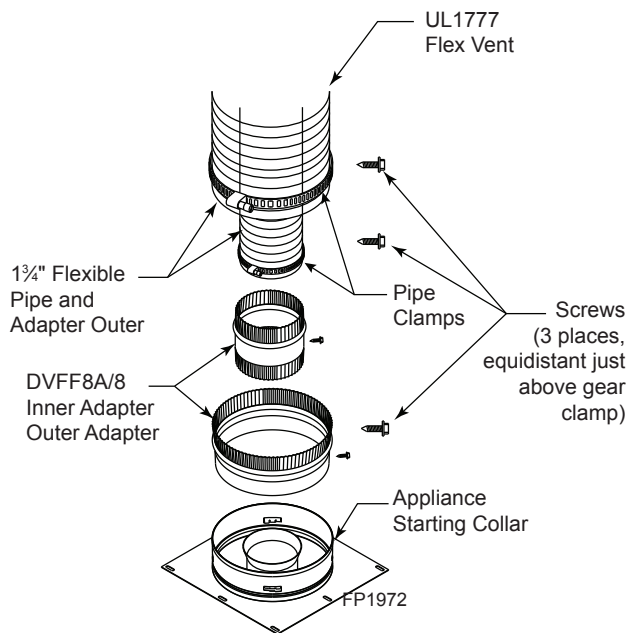

Figure 36 - Typical Appliance Connection
2. The flex adapter starter kit (DVFF8A/8) is used to attach flex venting to the appliance starting collar. It includes 5" inner and 8" outer adapter rings. *Figure 36*
- A. Installing the inner flex adapter and pipe. *Figure 36*
- B. Installing the outer flex pipe. *Figure 36*